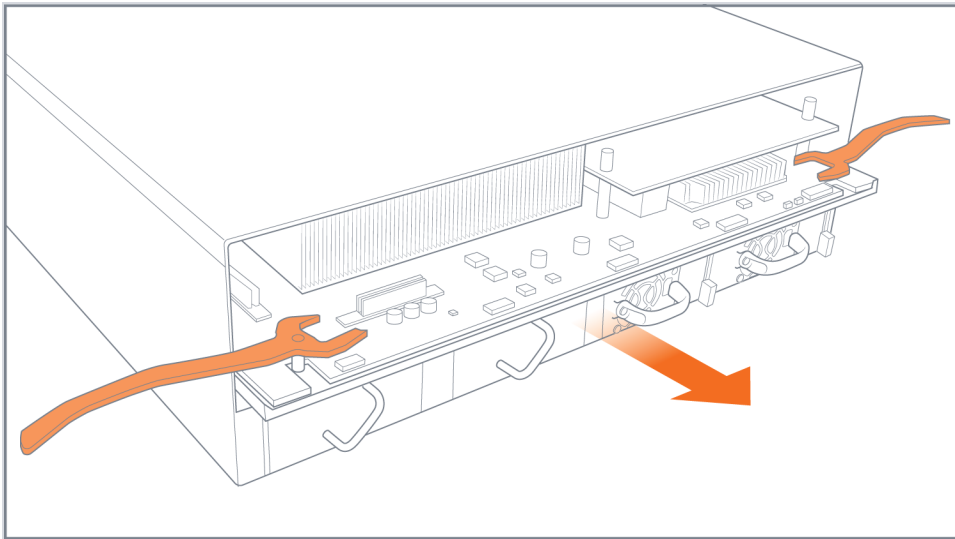

Figure 19: Control Card Removal
5. Pull out the control card. Refer to Figure 19: Control Card Removal on page 85.